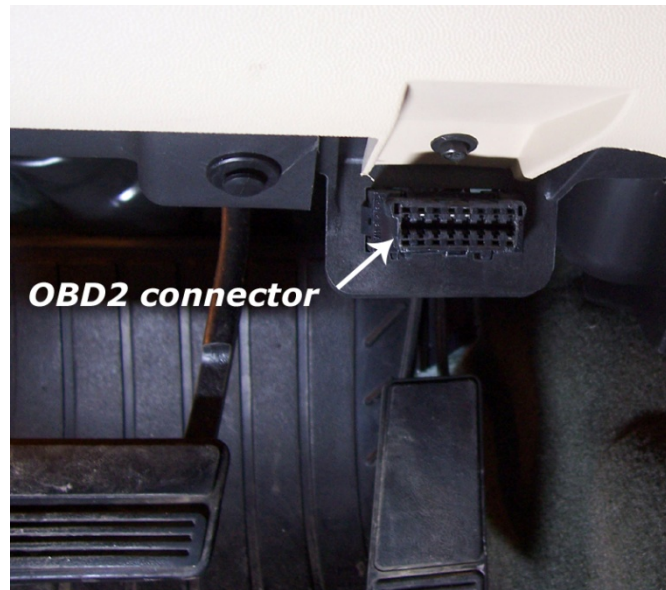

Figure 2
5. **Plug the main cable connector into the OBD2 connector.** See *figure 2*. The data, ground, and power on most vehicles come from this connector.